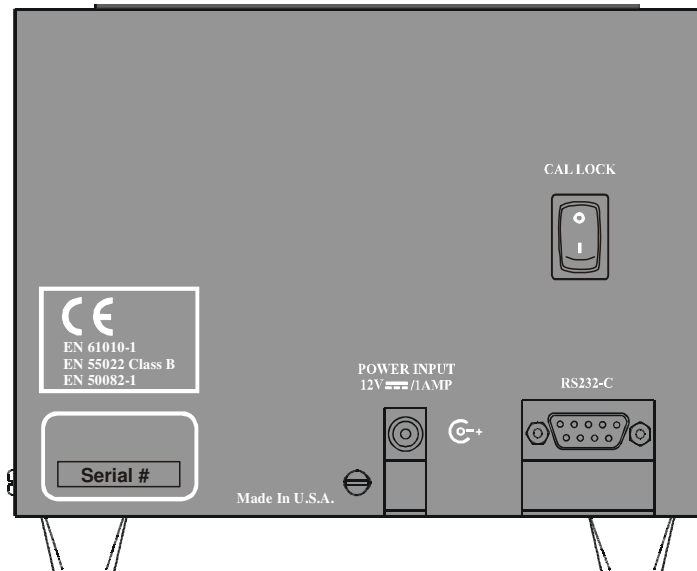

Figure 3: The TOG/TPH Analyzer: Rear view
The CAL lockout switch must be in the on (I) position to set the timer (see figure 3, section 1.3.2). Press and hold the **RUN** button until the current timer value is displayed. The value is displayed as 1 or 2 digits in minutes and 2 digits in seconds, separated by a period (.). Release the **RUN** button once the current value (initially 0.05) is displayed. Use the up-arrow and down-arrow keys to scroll the timer to the desired value. Five seconds (0.05) is recommended. To zero the timer during programming, press the **ZERO** button. Once the desired time has been programmed press the **CAL** button. The display will read *idLE*.